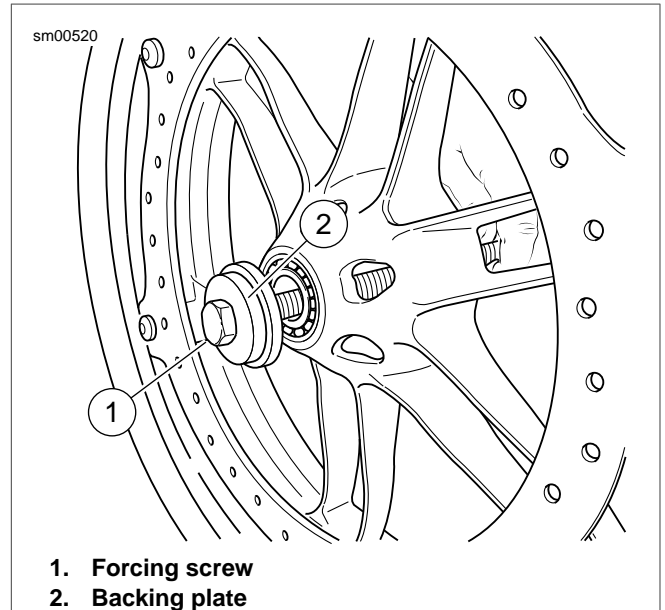

Figure 2-13. Insert Forcing Screw and Backing Plate
8. See Figure 2-13. Remove the backing plate (2) from the long forcing screw (1). Reinstall the Backing Plate onto the forcing screw, with the smaller diameter toward the hex-head.